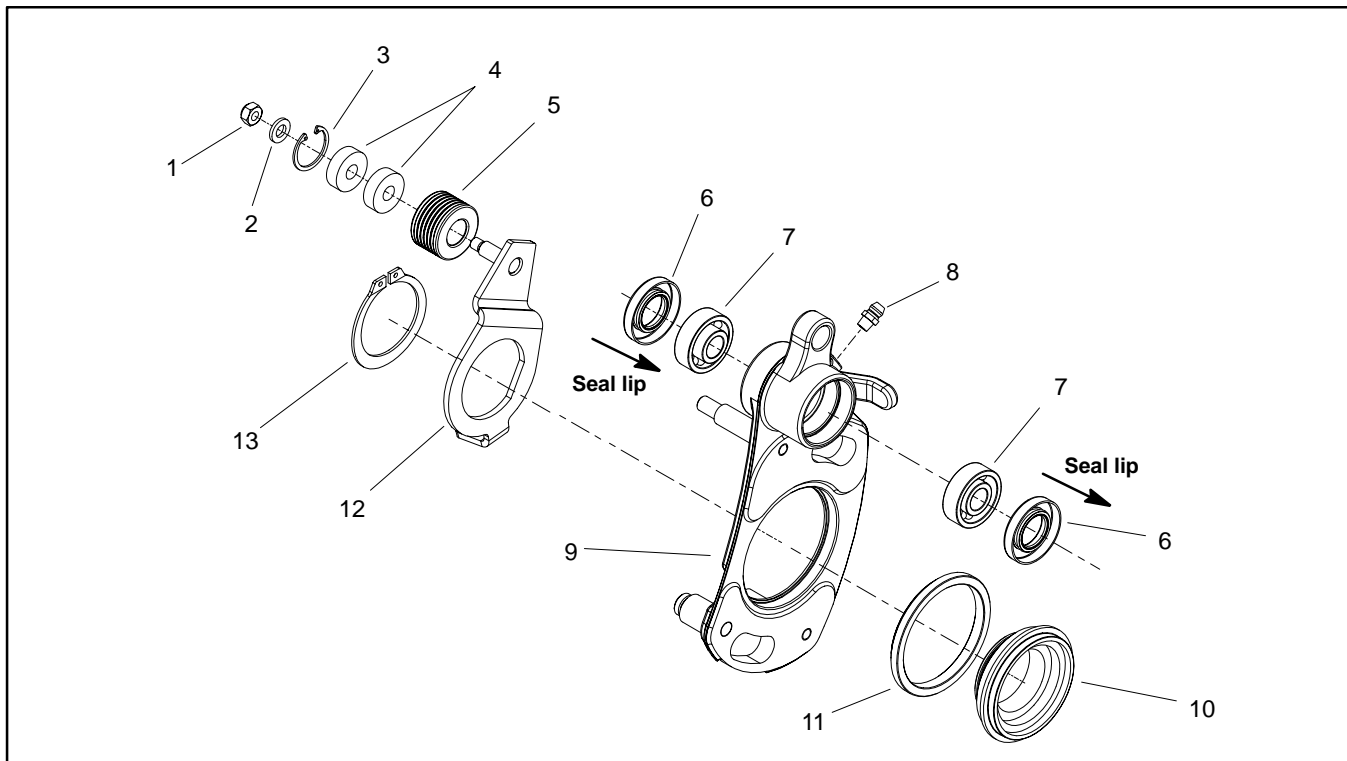

Figure 15
2. Using Figures 15 and 16 as guides, remove idler bracket, idler pulley and/or idler bearings for service as needed.
1. Assemble components using Figures 15 and 16 as guides.